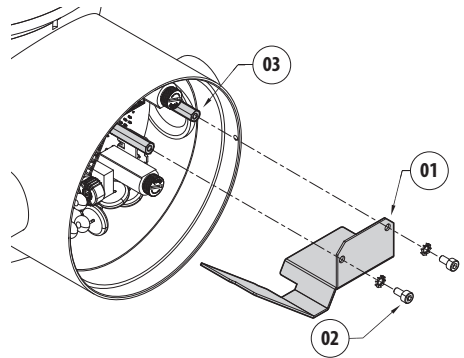

**Fig. 17**
For installations according to UL/CSA standards, the cables for Ethernet, reset, alarms, relays and fibre optics should be inserted in the right cables entry (01) as indicated in the following figure (Fig. 17, page 23).
For installations according to UL/CSA standards, pass the power supply cable through the cables input on the left (02), as indicated in the figure (Fig. 17, page 23).